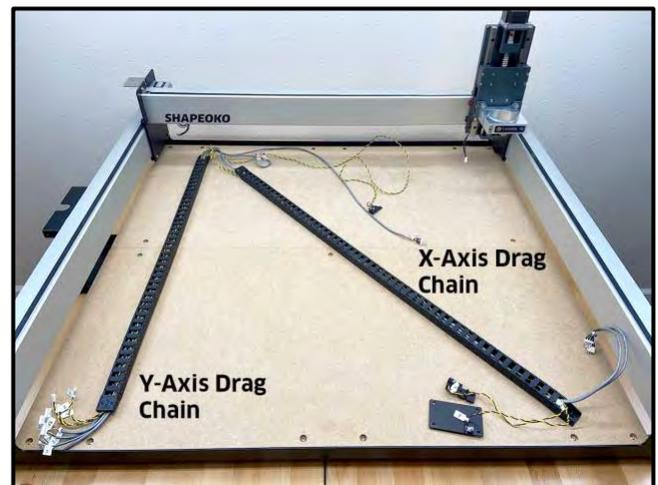

Figure 27
- a. Use a 2mm hex key and needle nose pliers to remove the two (2) M3×6mm FHS and two (2) M3 nyloc nuts.
6. Remove the drag chain from the rails and lay it on the baseframe as shown in **Fig. 27**.